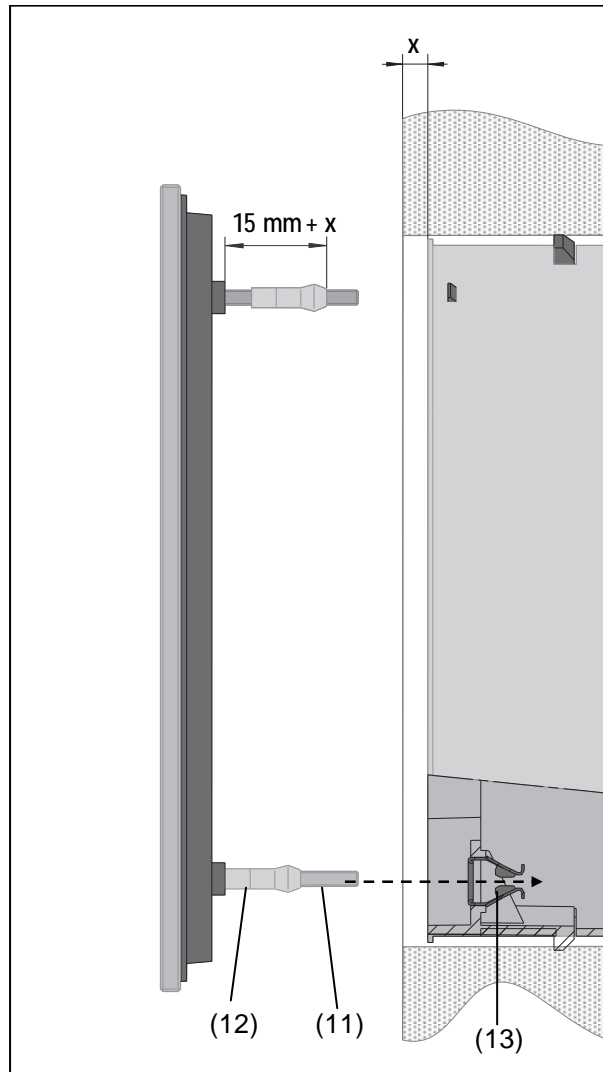

Figure 6
- If necessary, measure the required surface adjustment (Figure 6, x). Screw the retaining pins (Figure 6, 12) on the setscrews (Figure 6, 11) out by the surface adjustment x so that they have a distance of 15 mm + x from the socket for the setscrews.
- Insert the setscrews (Figure 6, 11) of the glass sensor into the clamp springs (Figure 6, 13) and press in until the retaining pins (Figure 6, 12) engage noticeably.
- If necessary, measure the required surface adjustment (Figure 6, x). Additionally screw the retaining pins (Figure 6, 12) on the setscrews (Figure 6, 11) out by the surface adjustment x so that they have a distance of 20 mm + x from the socket for the setscrews.
- Screw the setscrews (Figure 6, 11) out of the sockets on the back of the glass sensor.
- ❶ The head end of the setscrews has a socket for an Allen key, width 1.5 mm.